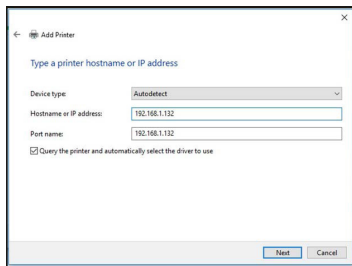

Figure 15
- On the **Add Printer** screen, under the **Hostname or IP address** field, enter the **IP Address** assigned to the **Print Server**. Select **Next**. Windows will detect the TCP/IP port and will transition to the next screen automatically. (Figure 15)